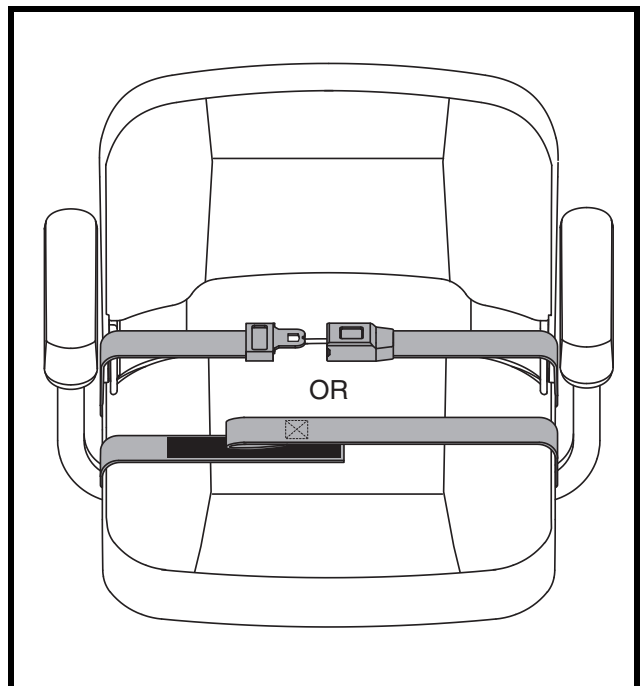

Figure 19. Positioning Belt—Metal Tab Style or Reusable Hook and Loop Fastener Style
1. Insert the metal tab on the right side of the belt into the plastic housing on the opposite strap until you hear a “click.” See figure 19.
1. Align the two sides of the belt placing the looped-end side directly above the coarser side (“hook”) of the opposite belt. Press firmly together to fasten. See figure 19.